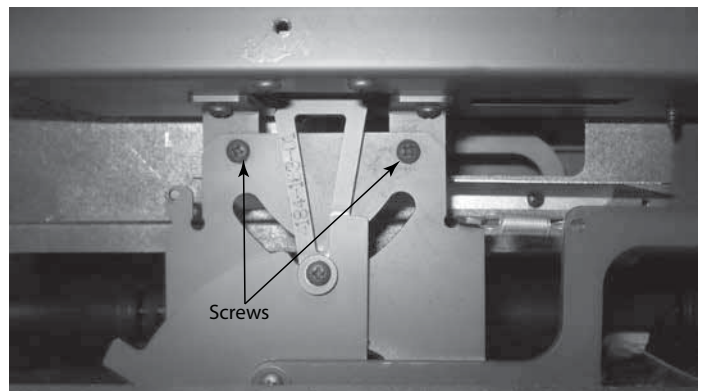

Figure 4.35 Screw Timer to Air Chamber
- Screw the timer to the air chamber. See Figure 4.35.